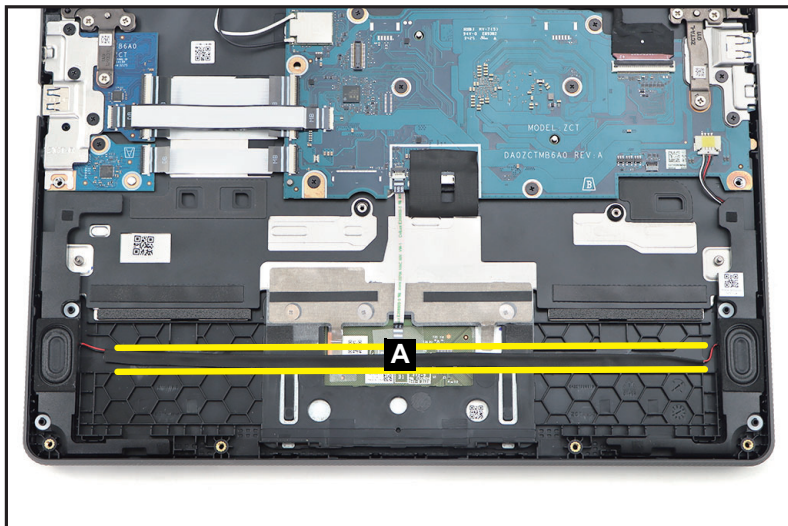

Figure 1-11. Touchpad Module Removal
1. Unroute the speaker cable (A) from the cable guides as shown in Figure 1-11.